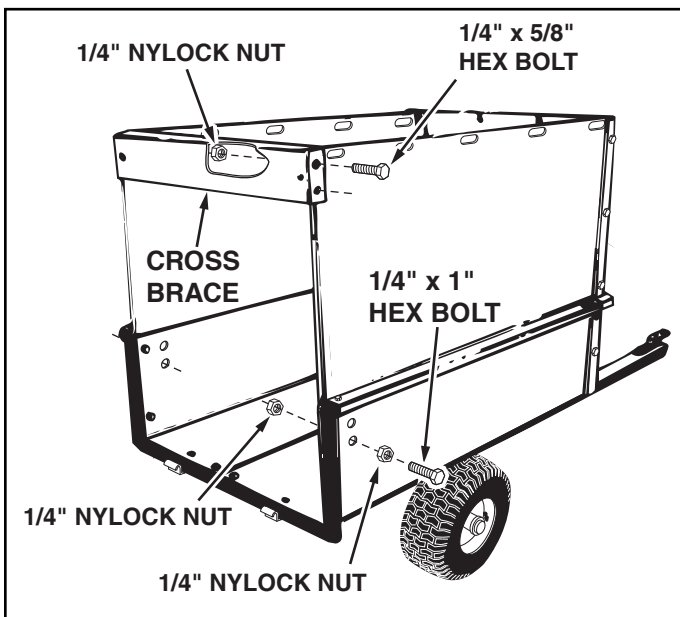

FIGURE 12
- Screw a 1/4" nylock nut onto a 1/4" x 1" hex bolt until it is about 1/4" from the bolt head. Insert the bolt into the hole shown in the side of the cart in figure 12. Fasten the bolt to the cart using a 1/4" nylock nut. **Tighten** so that the nut is one or two threads past the end of the bolt. Repeat on the other side.
- Assemble the cross brace to the top rear holes in the side panels using four 1/4" x 5/8" hex bolts and 1/4" nylock nuts. See figure 12.